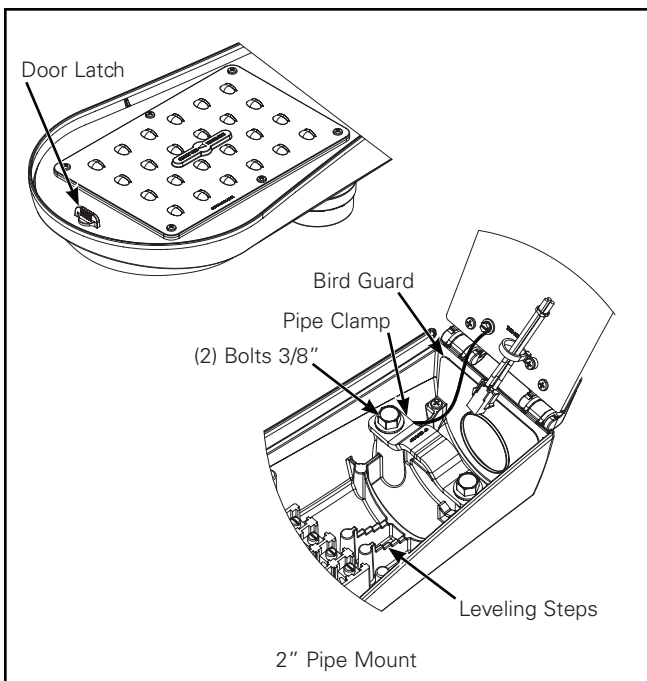

Figure 1.
Note: If optional lanyard is supplied, the door should not be removed. (Figures 1 & 2.)
3. Using a 9/16" socket, loosen the two pipe clamp bolts enough to allow mounting arm (not included) to slide onto leveling steps. (Figures 1 & 2.)